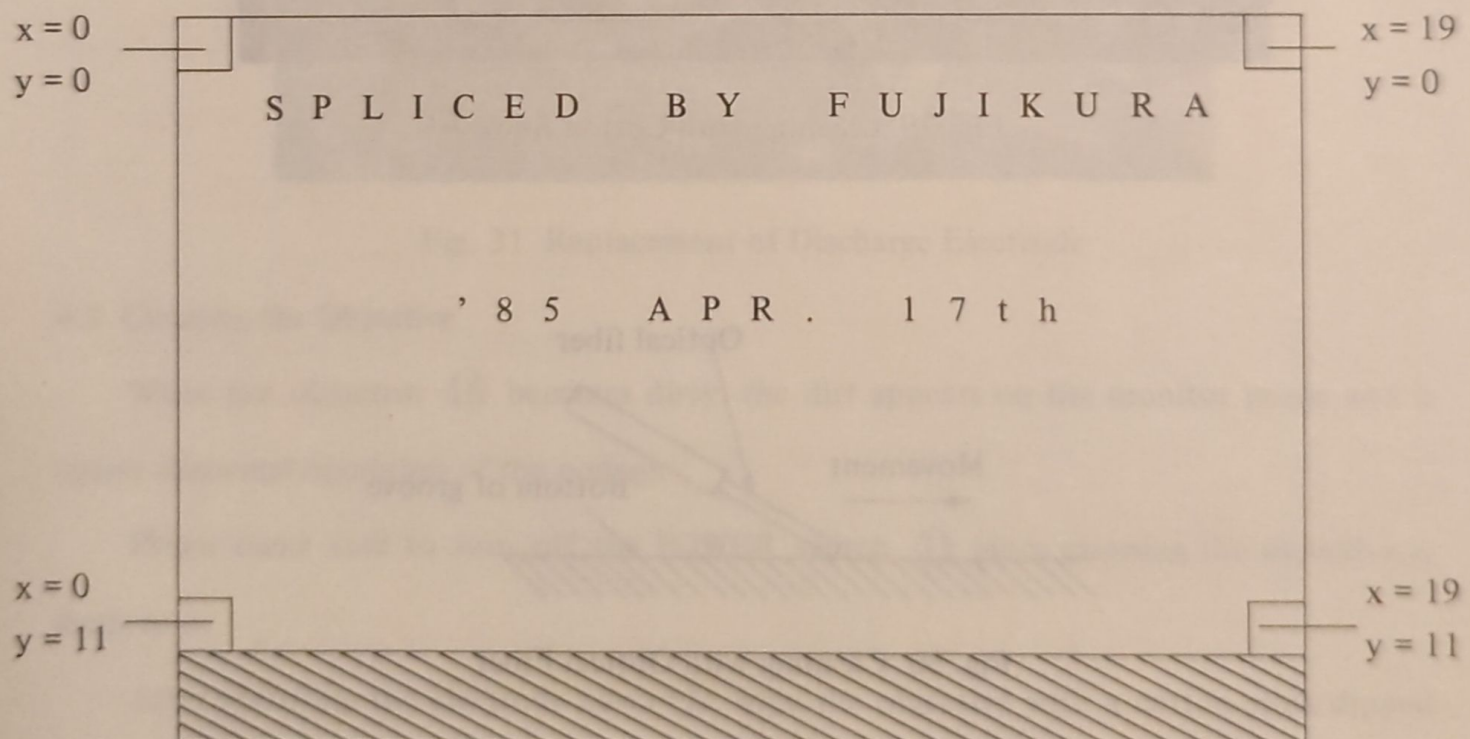

Fig. 28 Message Display on the Monitor
The monitor ③⑧ of the splicing controller has the 20x12 size of message display area as shown in Fig. 28. Available ASCII characters are shown in APPENDIX (B). Message display is done by following steps.
(1) Write the message on the BTRAM
Example: When following data are sent to the controller, the monitor displays such as shown in Fig. 28.